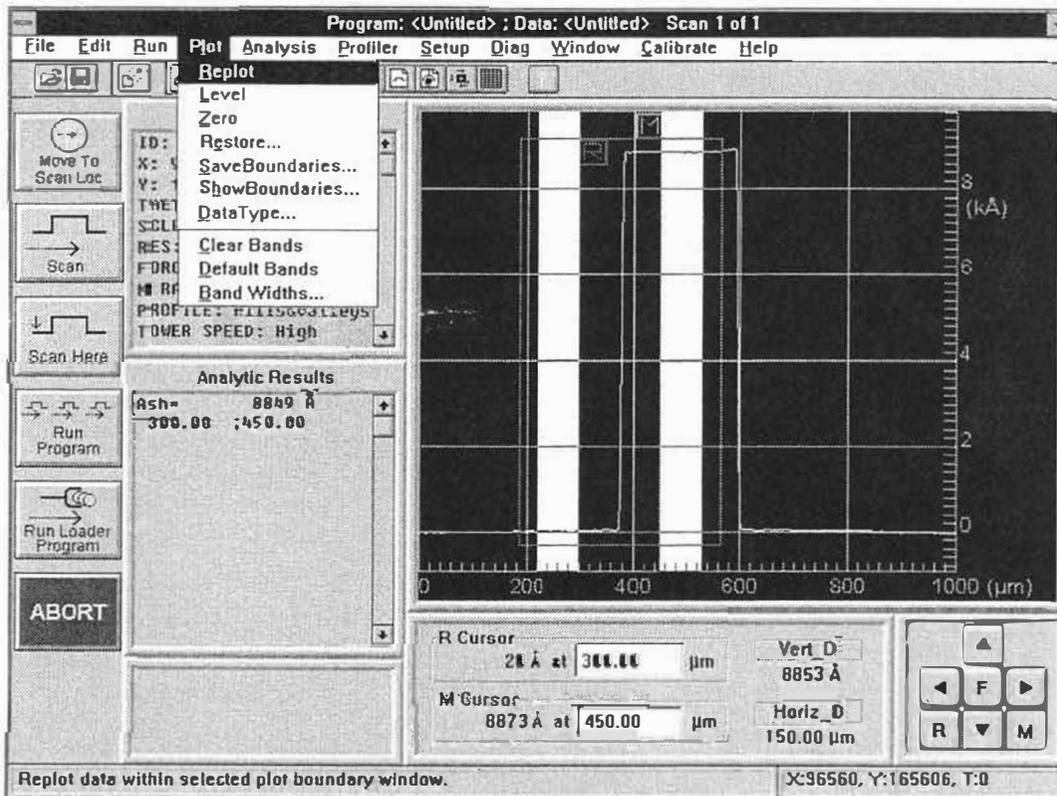

Figure 4-11. Plot Magnification
2. The blue crosshair will now be displayed as a small red box. Drag the pointing device away from the first corner at a diagonal to expand the box. Once the box has turned green, it contains enough data to allow the trace to be replotted. When the desired boundaries are set, click-on the trackball button a second time. For this exercise the boundaries should look similar to those shown in Figure 4-11.